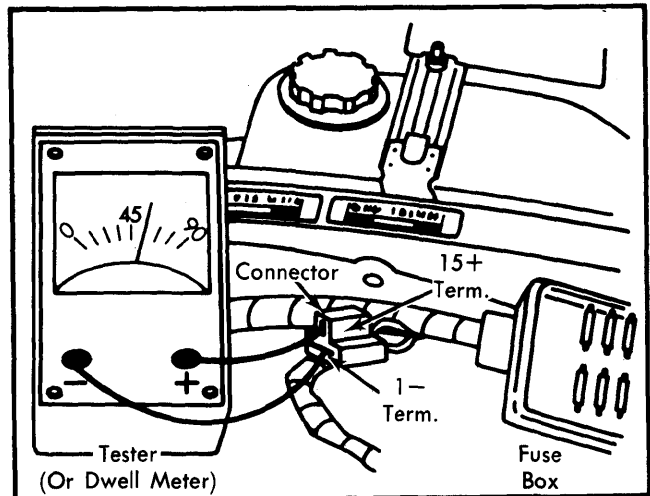

Fig. 4 Mixture Adjustment Tester Connections
2) Connect Bosch tester (KDJE 7453) or dwell meter to test connector in front of fuse box. See Fig. 4. Start engine and observe scale on tester. If needle fluctuates between 10-90% on Bosch tester or 10-80° on dwell meter (4 cyl. scale), no adjustment is needed.